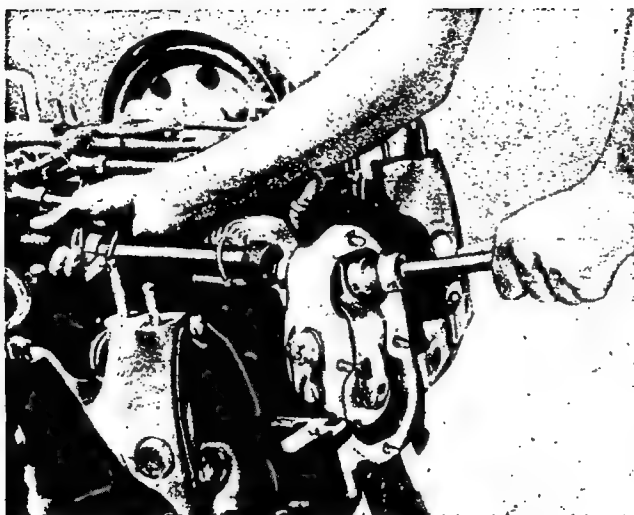

Figure 37—Removing Push Rod
(1) The following procedure is given for cases in which it is desired to remove a push rod without removing the rocker arm hub bolt or disturbing the torque setting which has previously been applied to the rocker bolt nut. See figure 37.